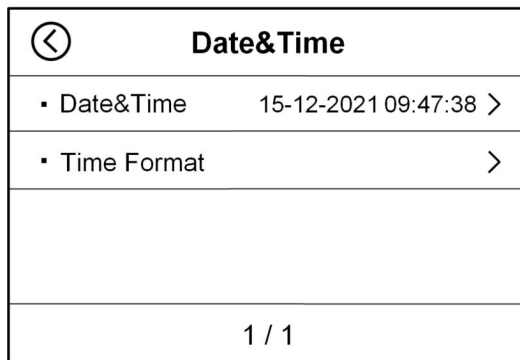

Figure 61
2) Touch the “**Data&Time**” option in the basic setting interface to enter the time setting interface, as shown in the following Figure 61: